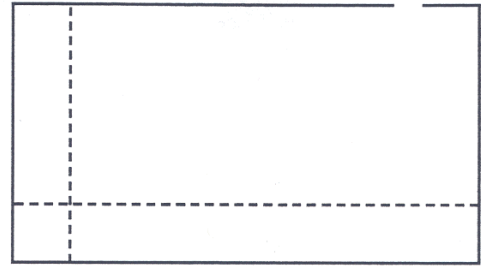

Fig. 2
2. Move chalk lines to one corner or end of the area farthest from the doorway. These lines should be 2' or 3' from the wall depending on your reach (Fig. 2).